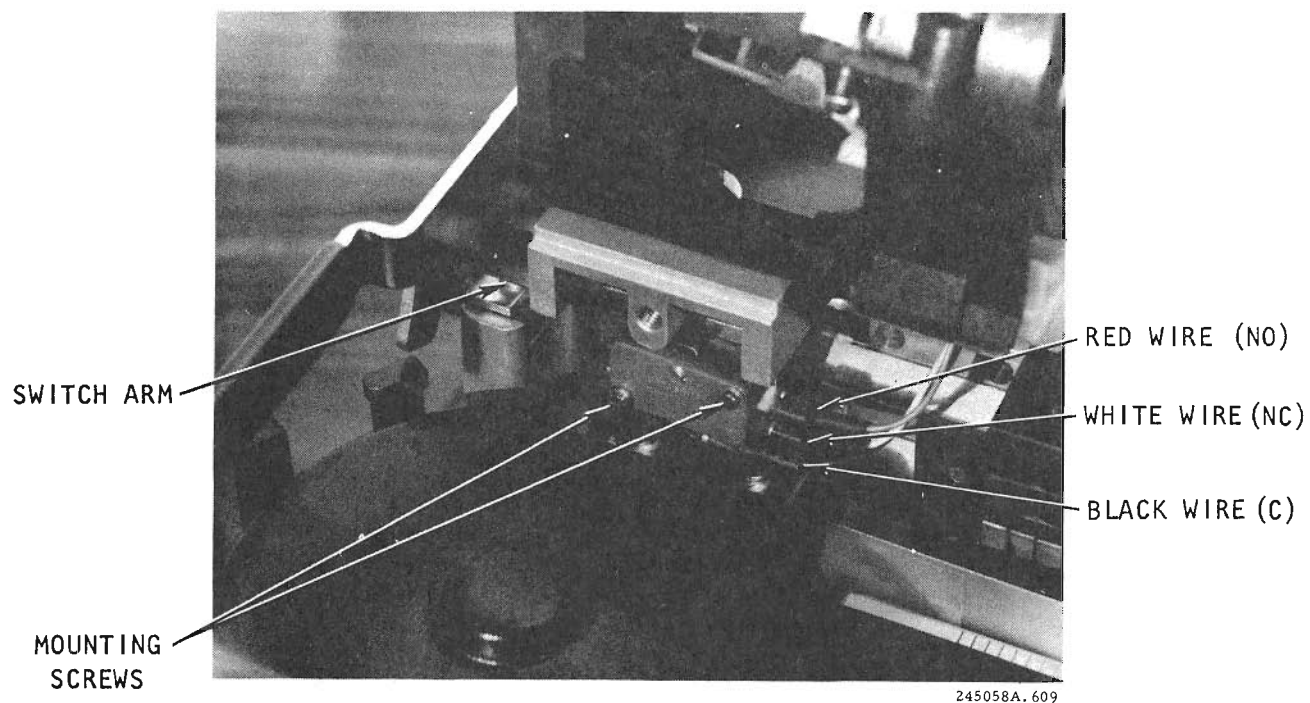

Figure 6-9. Hammer Bank Interlock Switch
- d. Remove the two switch mounting screws (figure 6-9).
- a. Connect the switch wiring (figure 6-9).